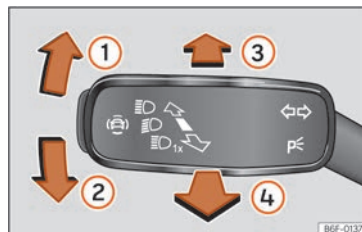

Fig. 94 Turn signal and main beam lever.
- From the base position, press the turn signal and main beam headlights lever forwards >>> Fig. 94 ③
- **OR:** if the main beam assist is on, pull the turn signal and main beam headlight lever backwards » **Fig. 94** .